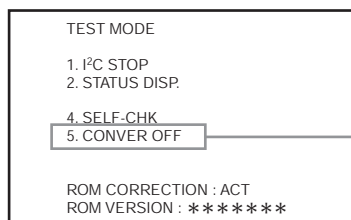

Fig. 1
- While the indication "SLEEP TIMER 30 MIN." is being displayed, press [DISPLAY] key and [VIDEO STATUS] key simultaneously to enter the TEST MODE MENU screen as shown in the Fig.1.